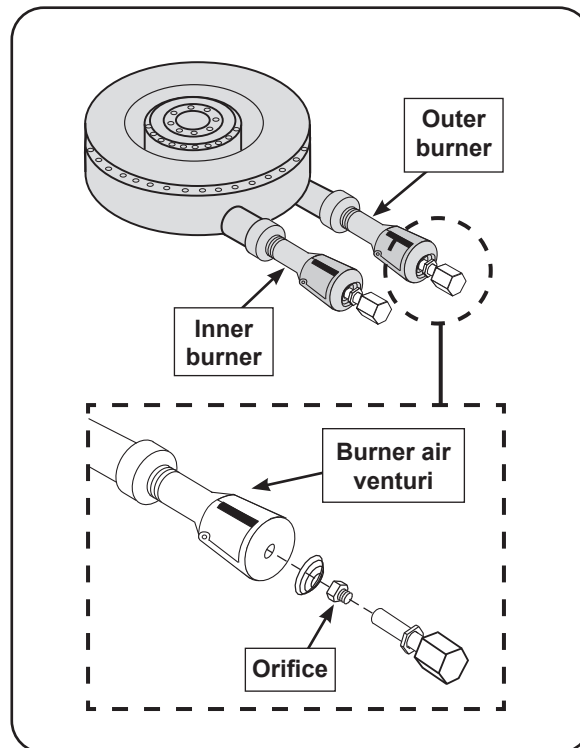

Fig. 50-1 Burner orifice orientation
2. Locate the orifices. The orifice size is stamped on each orifice face (see Fig. 50-1).